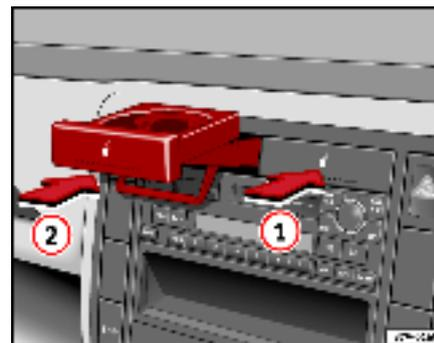

Fig. 105 Cupholder in the centre console
- Push the cup holder up in the direction of the arrow ⇒ fig. 105 until it engages.